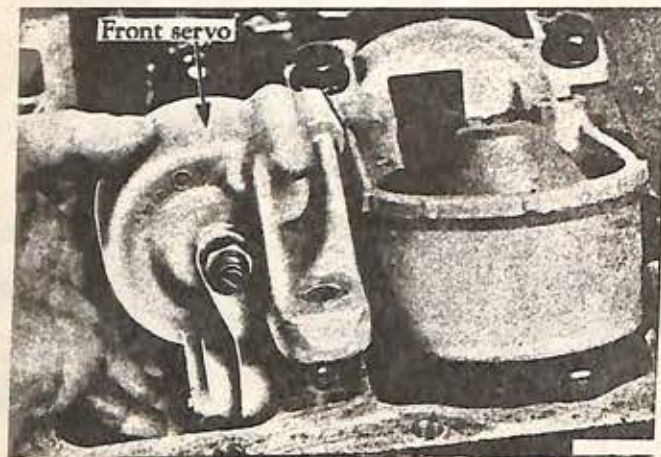

Fig. 32
1. Remove the front servo attaching capscrew, hold the front servo strut with the fingers, then lift the servo assembly from the case (Fig. 32).